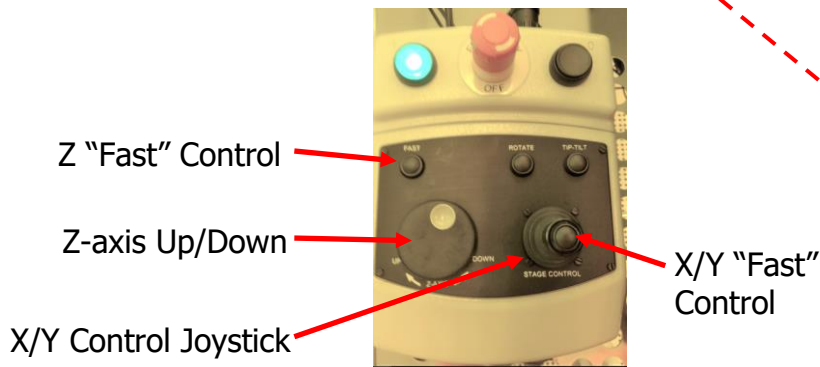

Figure 3
- 4.3. Verify the stage is retracted out from under the objective. If needed, use the Z-axis Up to move the objectives up from the stage or the X/Y joystick (Figure3) to move the stage out from under the objectives.
- 6.2. Verify the green lamp on the manual stage control (Figure3) is illuminated. If not, press the black button in the top right corner